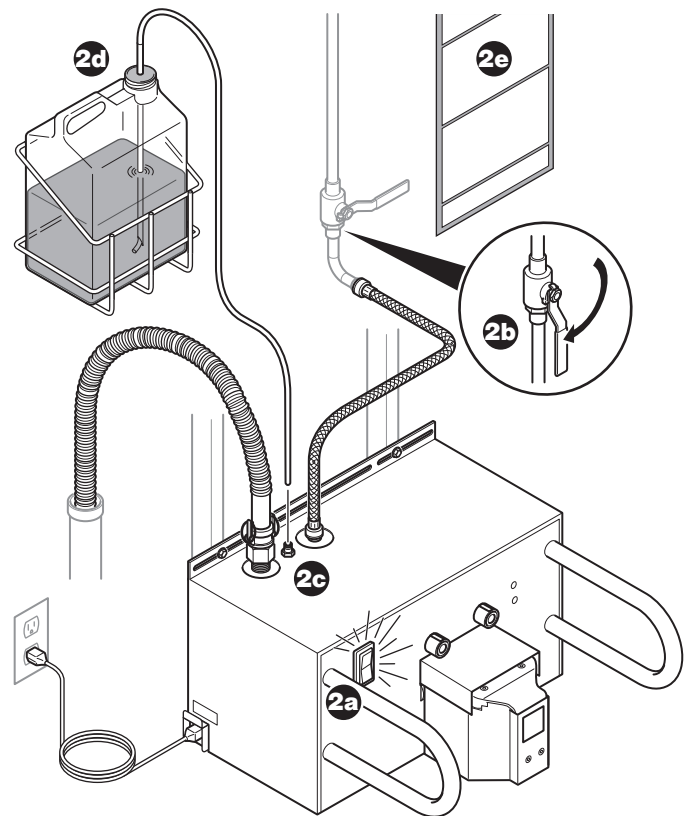

Figure 8 To Apply Power, Water, and Detergent
2. To Apply Power, Water, and Detergent (Figure 8)